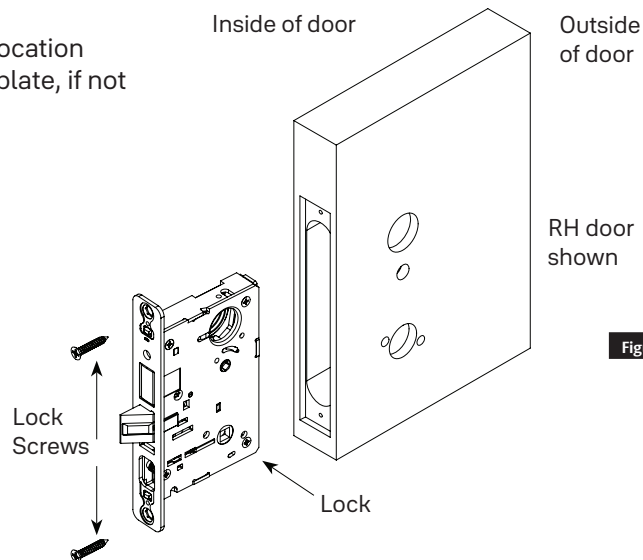

Figure 6
2. Make sure handing of lock matches handing of door. Slide lock into door. (Figure 6)
3. Temporarily hand tighten two (2) lock screws (#12 x 1-1/4" wood screws, or #12-24 x 1/2" machine screws).